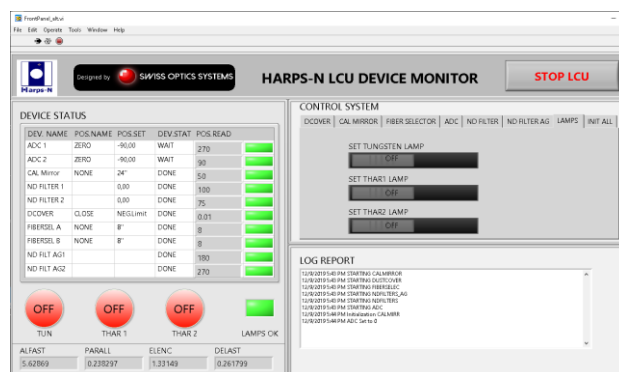

Figure 4 - LCU Device Monitor
3. On the **LCU Device Monitor** verify the lamps status (Figure 4)